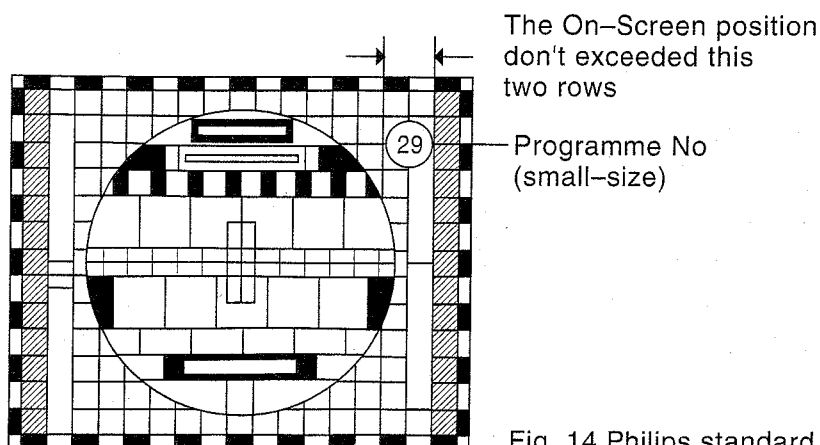

Fig. 14 Philips standard colour pattern
- (d) Adjust VR403 for the programme No. "29" (small size) position as shown in Fig. 14.